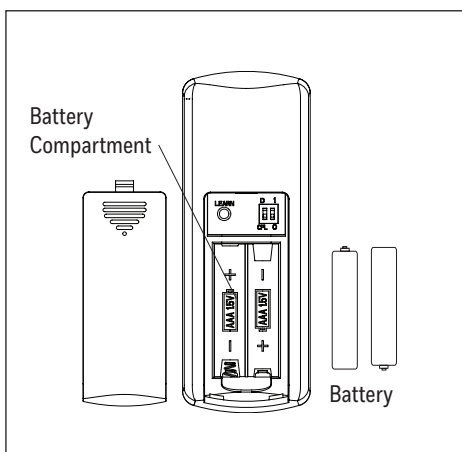

Figure 6.1
1. Use a flat-head screwdriver, if necessary, to remove the battery cover from the back of the remote found in remote pack. Insert the battery into the remote; ensure polarity of battery matches the polarity indicated in the battery compartment -- positive (+) to positive (+) and negative (-) to negative (-). Replace the back cover and press the fan on/off button on the remote to ensure the LED indicator illuminates and the remote turns on the fan (Figure 6.1).
Remote does not work.	<ol style="list-style-type: none"> <li>1. Power surge may have cleared the memory and remote needs to be resynced to the receiver. Syncing instructions: Turn off the power at the breaker box for at least 10 seconds and then turn the power back on. Within 30 seconds, press and hold the "LEARN" button (Figure 6.1) on the back of the remote for 5 seconds. The fan will turn on at high speed and light will blink twice and stay on, signaling a successful synchronization.</li> <li>2. Insert new 1.5 V, AAA batteries in battery compartment of the wall control.</li> <li>3. If there are several remote fans in proximity, turn the power off to those fans and re-sync the fan.</li> </ol>